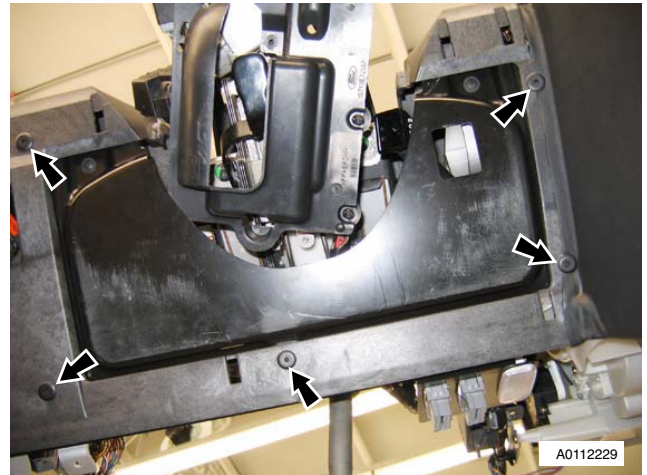

Figure 9
17. Drill out rivets (x5) plate to IP panel (see Figure 9).